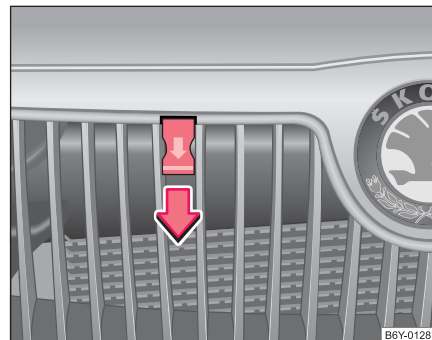

Fig. 124 Radiator grille: handle
- Pulling on the handle ⇒ page 171, fig. 124 will lock the bonnet fully.